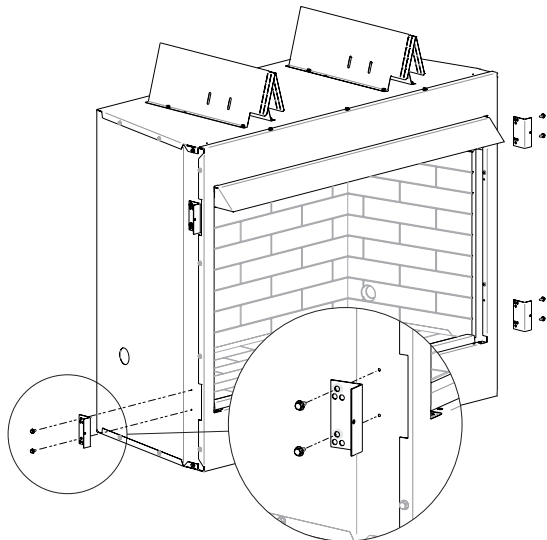

Figure 9
2. Install flanges on side of fireplace as shown using holes on side of fireplace. See Figure 9. The middle pair of holes is for the 1/2 inch non-combustible board provided with the unit.
1. Install flanges on side of fireplace as shown using holes on side of firebox. See Figure 9. The middle pair of holes is for the 1/2 inch non-combustible board provided with the unit.